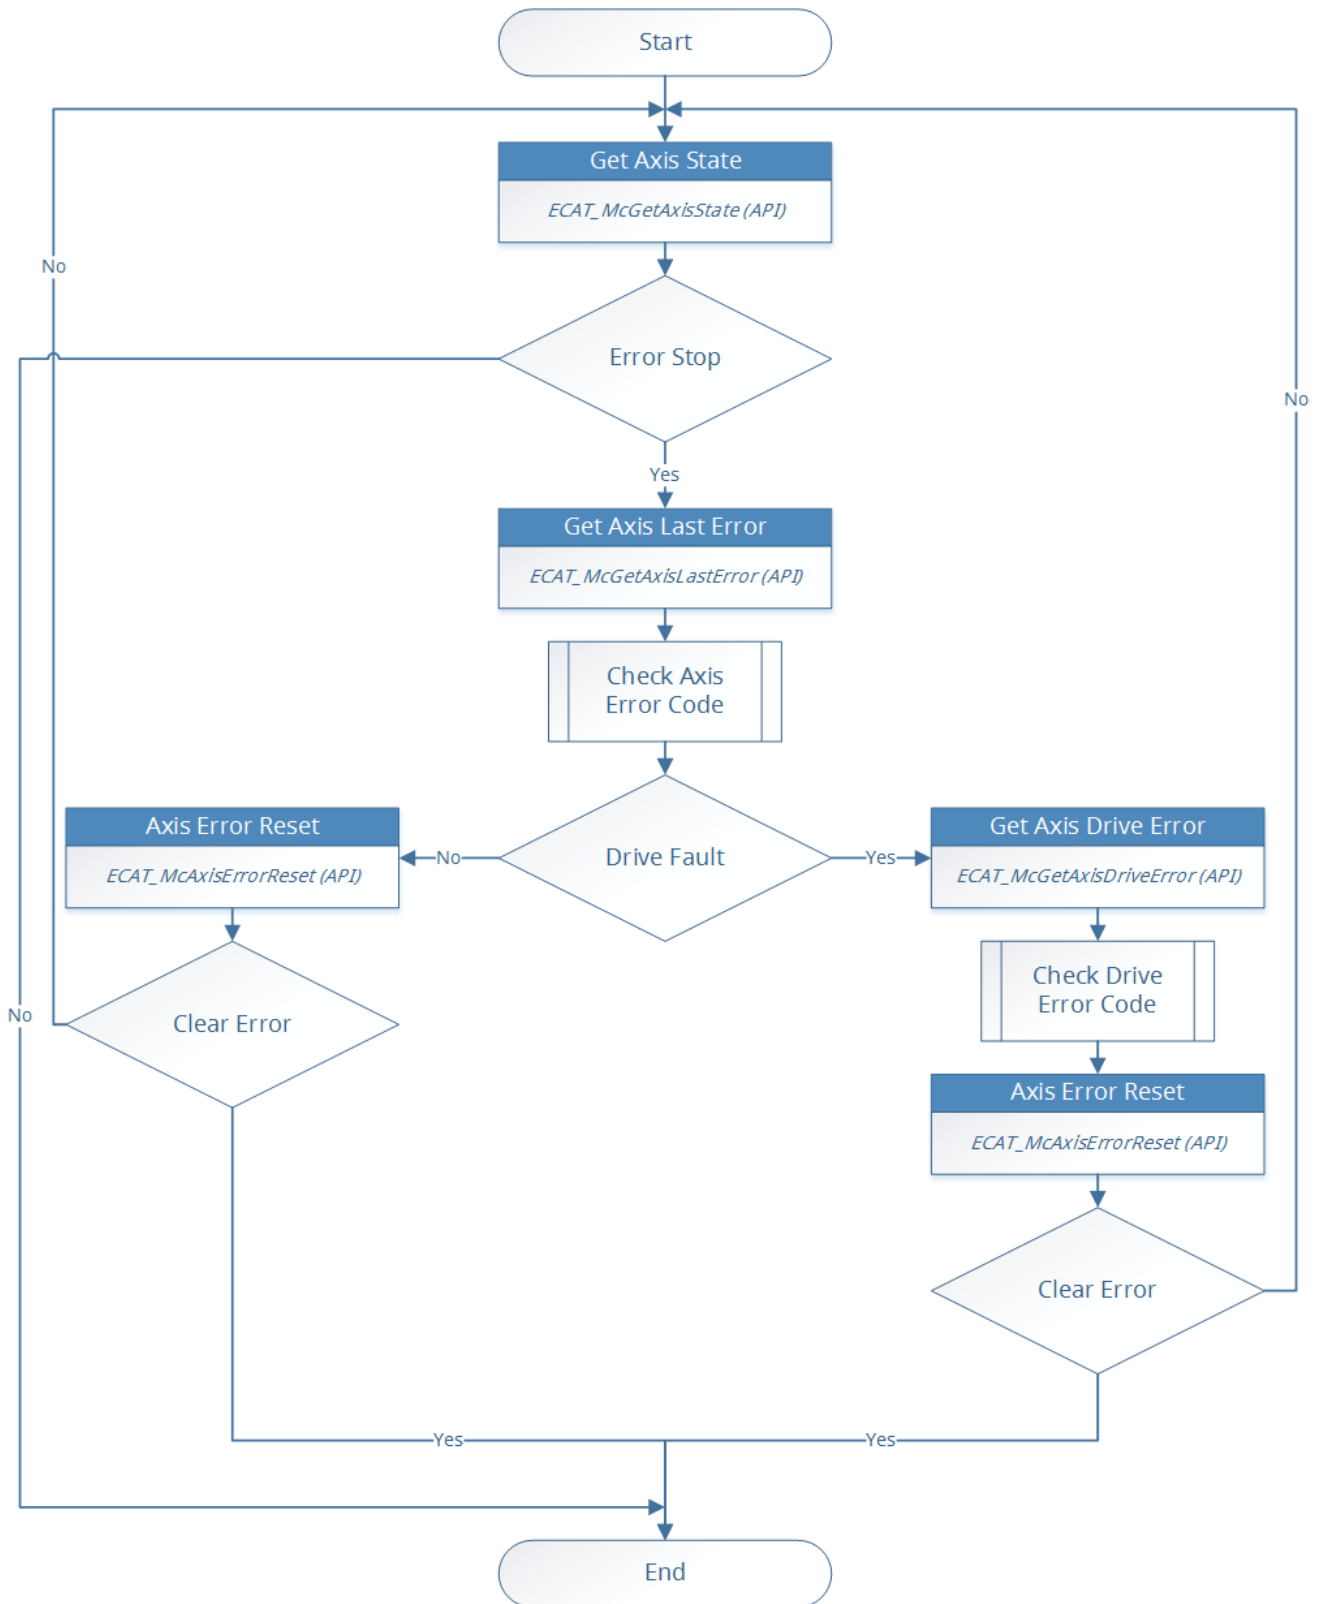

Figure 4.6
As shown in Figure 4.6, when the axis state is `ErrorStop`, `McGetAxisLastError` function can be used to get the error code. From the error code, the cause of error can be determined. The error handling includes two parts: (1) If the error is not a servo drive error, the user can call `McAxisErrorReset` to clear the error. The axis state will be changed from `ErrorStop` to `Standstill`. (2) If the error comes from a servo drive, `McGetAxisDriveError` function can be called to get the drive's error code, and then call `McAxisErrorReset` to clear its error. Some servo drive errors can be cleared by the reset command; but some can not. If the reset command does not change the axis state back to `Standstill`, please restart (turn the power off than on) the servo drive to clear the its error.